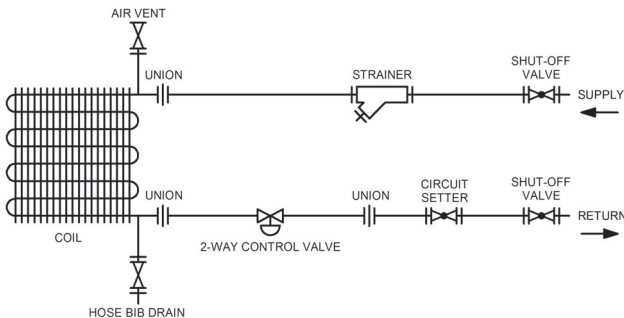

Fig. 9 — Typical 2-way Piping Installation
- 2. Install shut-off valves in lines to and from each coil to allow maintenance or replacement of unit without shutting down and draining entire system (see Fig. 9 and 10).